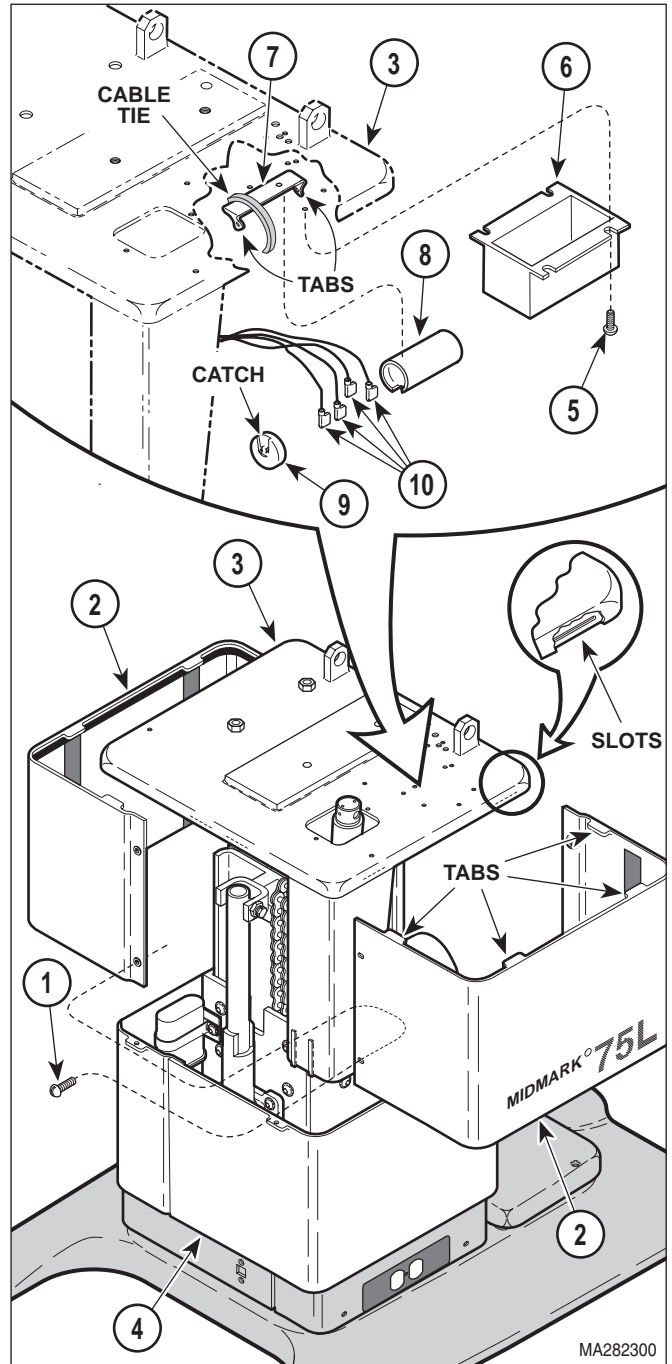

Figure 4-5. Tilt Capacitor Removal / Installation
- (2) Unplug table power cord from wall outlet.
- (3) Remove four screws (1, Figure 4-5) and R.H. and L.H. outer shrouds (2) from column adapter weldment (3).
- (4) Lower middle outer shroud assembly (4) down out of way.
- (5) Remove two screws (5) and connection cover (6) from column adapter weldment (3).
- (6) Cut cable tie securing wire harnesses to capacitor mounting bracket (7).
- (7) Using screwdriver, pry tab of capacitor mounting bracket (7) outward; then remove tilt capacitor (8) from capacitor mounting bracket.
- (8) Remove cap (9) from tilt capacitor (8).